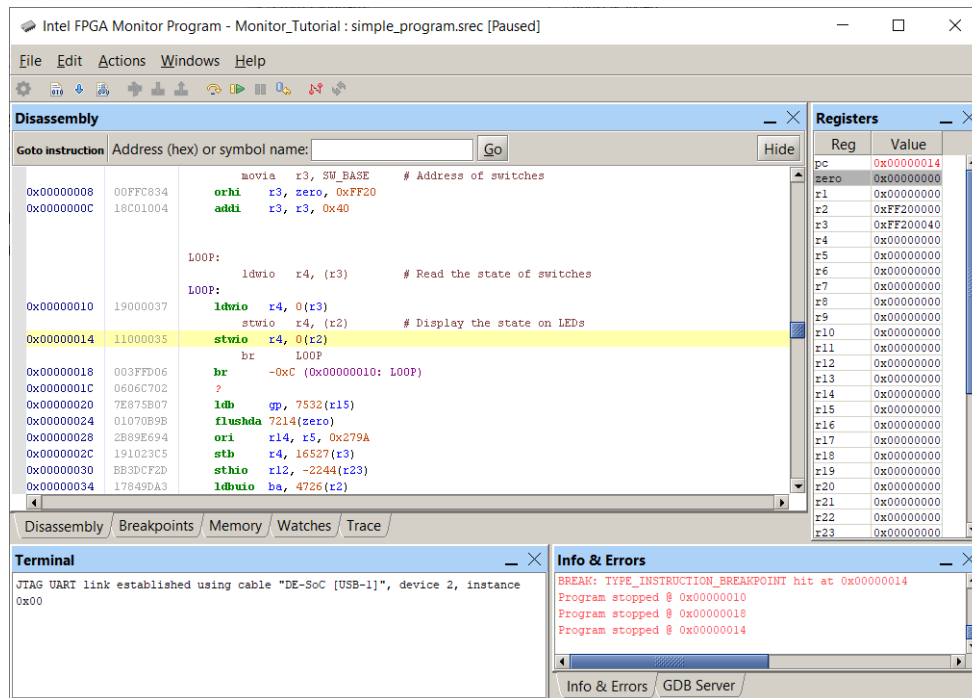

Figure 15. The Monitor Program display after the program has been stopped.
Figure 15 shows an example of what the display may look like when the program is halted by using the **Stop** command. The display highlights in yellow the next program instruction to be executed, which is at address 0x00000014, and highlights in red the values in the processor registers that have changed since the last program stoppage. Other screens in the Monitor Program are also updated, which will be described in later parts of this tutorial.
In Figure 15, the Disassembly window shows the machine instructions for our program. The leftmost column in the window gives the memory addresses, the middle column displays the machine code at these addresses, and the rightmost column shows both the original source code for the instruction, in a brown color, and the disassembled view of the machine code that is stored in memory, in a green color.
1. In the Disassembly window, scroll to display the instruction that will have the breakpoint. For example, in the window in Figure 15 scroll to the Branch instruction at address 0x00000018.